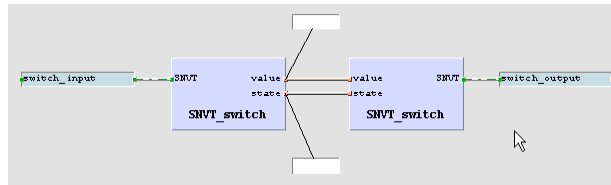

Figure 22: Online Test fields
13. Place the fields above and below the drawing as shown in Figure 22, then press the **Save** button to save your changes.